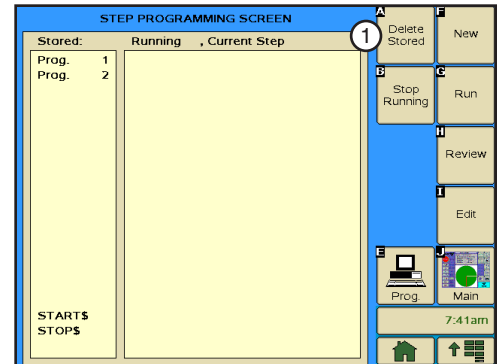

Figure 119-1
1. Push **Prog.** and **Step Prog.** to view the Step Program screen. Refer to Figure 119-1.